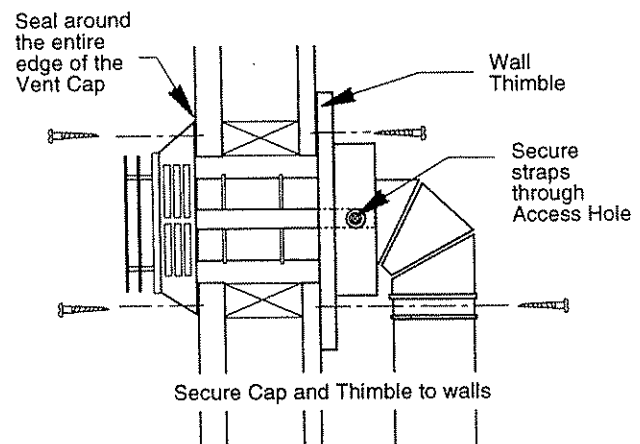

Figure 29. Secure the straps to the vent.
- 6. Secure the Straps.** Rotate the Wall Thimble around the elbow to provide access to secure the two mounting straps to the straight vent pipe. Attach the straps with the sheet metal screws supplied with the Vent Cap. Fig. 29.